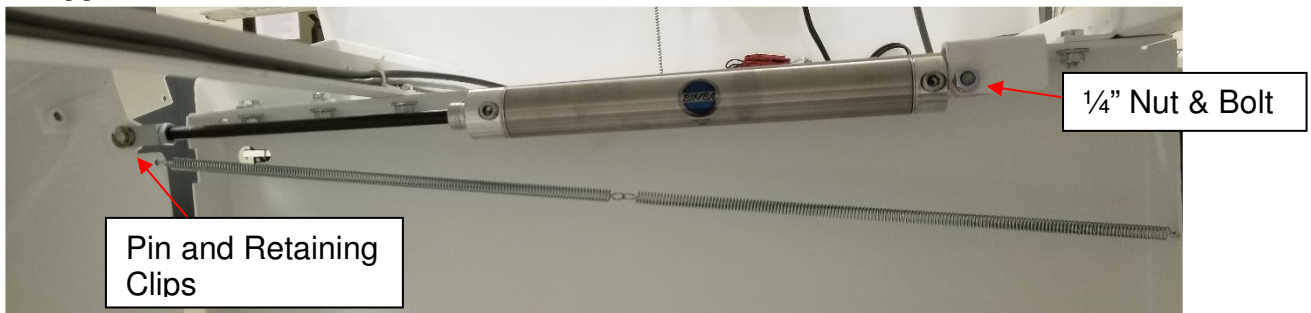

Figure 34: Front Cover Spring and Shock
2. Install the two ends of the retaining cable to the right side of the table as pictured in Figure 34.